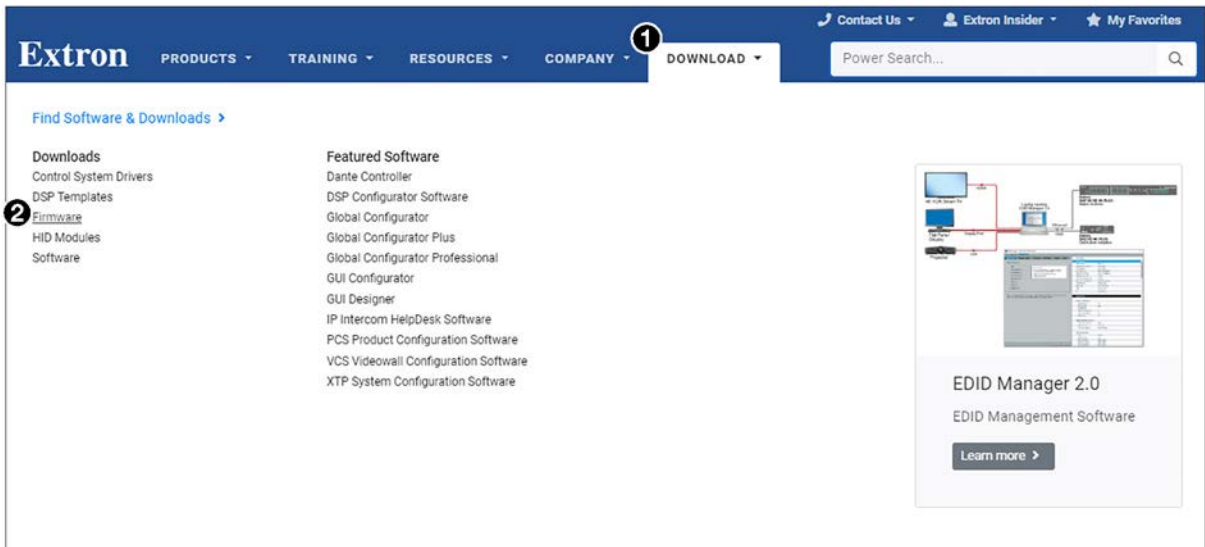

Figure 92. Downloading Firmware from the Extron Website
1. On the www.extron.com, click the **Download** tab (see figure 92, ①).
2. Move the pointer to the **Firmware** link (②) in the **Downloads** column and click it.